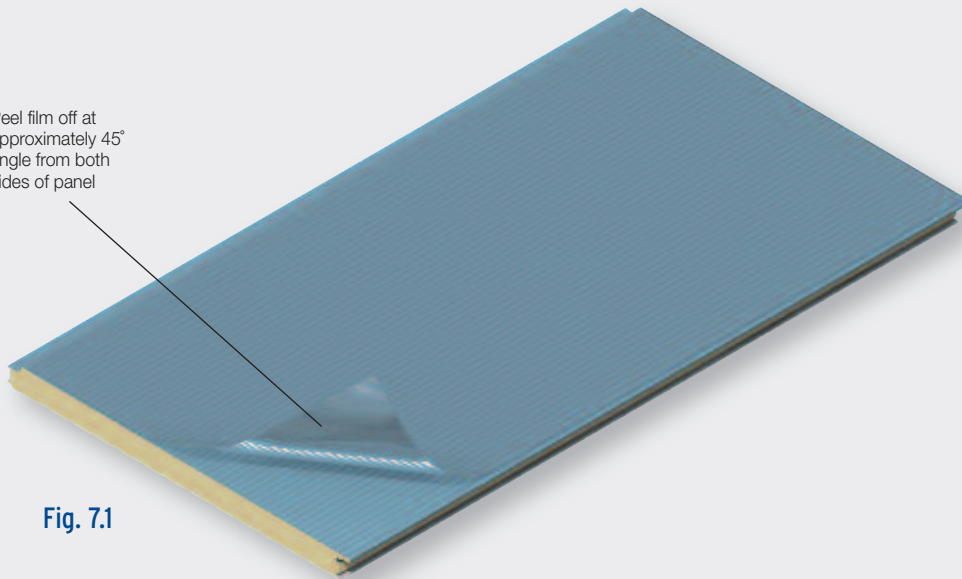

Fig. 7.1
- 7.3 Loosen film along male edge and peel it off and down at approximately 45° angle from both sides of panels (see Fig. 7.1).